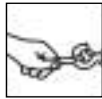

Figure 2
7. NEVER WINCH WITH LESS THAN 5 TURNS of wire rope AROUND THE WINCH DRUM since the wire rope end fastener will NOT withstand a load. Your S9000 winch wire rope has a ten-foot red "warning indicator" on each end. The "warning indicator" at the winch end warns you that the wire rope is near or less than 5 turns. The "warning indicator" at the hook end of the wire rope warns you that the hook is approaching the winch. ALWAYS USE THE HANDSAVER when guiding the wire rope in or out (see Figure 2). As you use your winch, the red paint will wear off due to normal use. When this happens, renew the red paint as it is a safety feature of the winch.